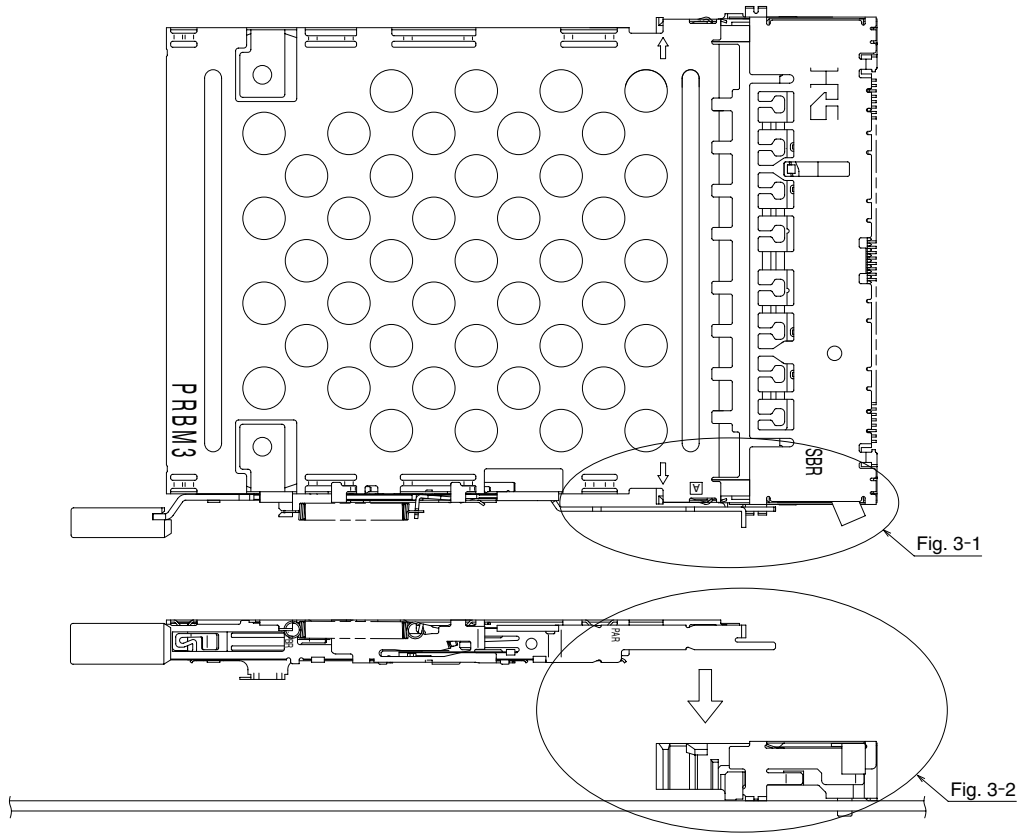

Fig. 3
(2) Align both arrow marks (stamped on the shield plate) on the Guide unit with the corresponding grooves on the (mounted on the board) SMT unit (as illustrated of Fig. 3 and 3-1).
Note 1: As illustrated in the enlarged view of Fig. 3, the lock is released by deflecting the insulator approximately 0.5 mm.
Fig. 3 detail A - enlarged view